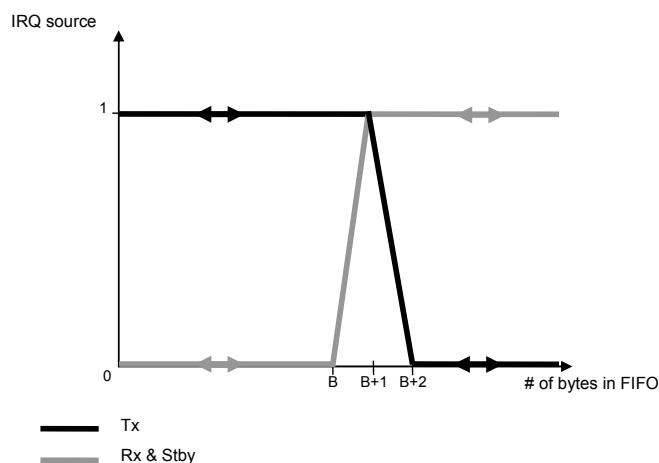

Figure 32: FIFO Threshold IRQ Source Behavior
- Fifo_threshold: Fifo_threshold interrupt source's behavior depends on the running mode (Tx, Rx or Stby mode) and the threshold itself can be programmed via MCPParam_Fifo_thresh (B value). This behavior is illustrated in Figure 32.